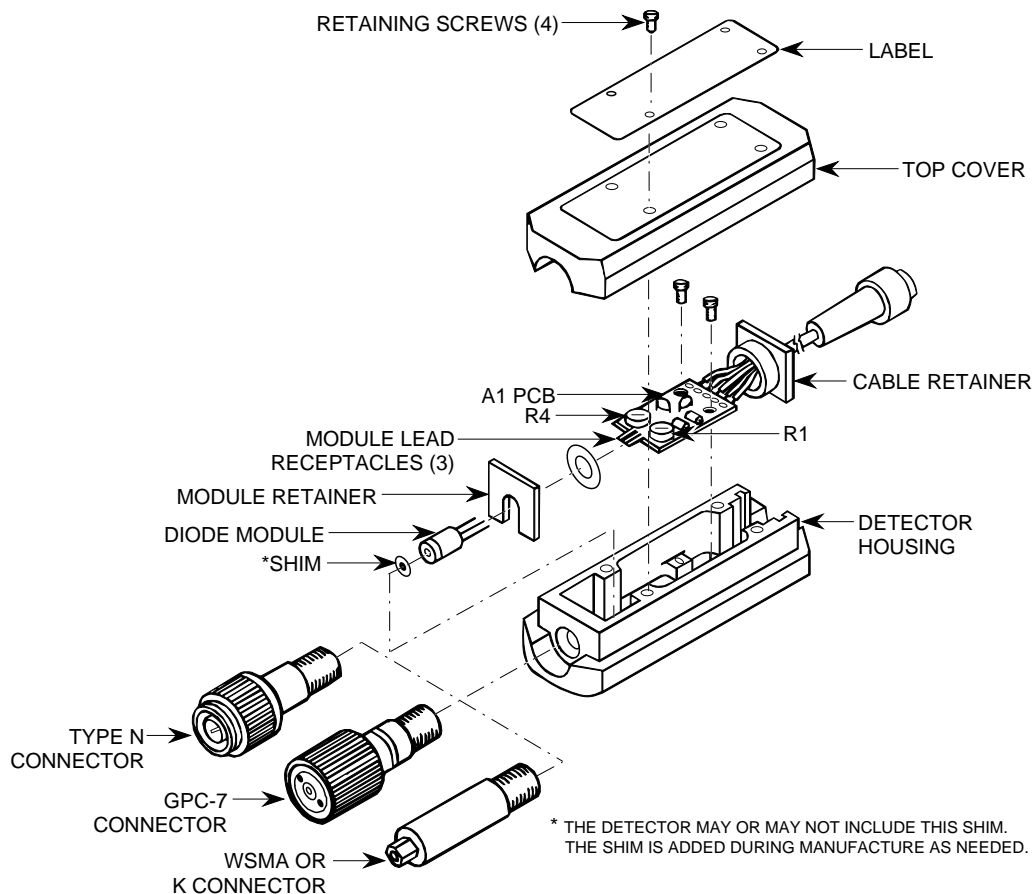

Figure A-4. Series 560-7XXX RF Detectors, Exploded View
- Step 2** Unfasten the two retaining screws that hold down the rf detector PCB subassembly (Figure A-4).
- Step 13** Orient detector housing normally (Figure A-4). Insert replacement diode module into rear of connector body so that center lead is on top.
- Step 16** Orient PCB subassembly normally as shown in Figure A-4 and insert into detector housing so that leads from replacement diode module mate with connectors on PCB subassembly.